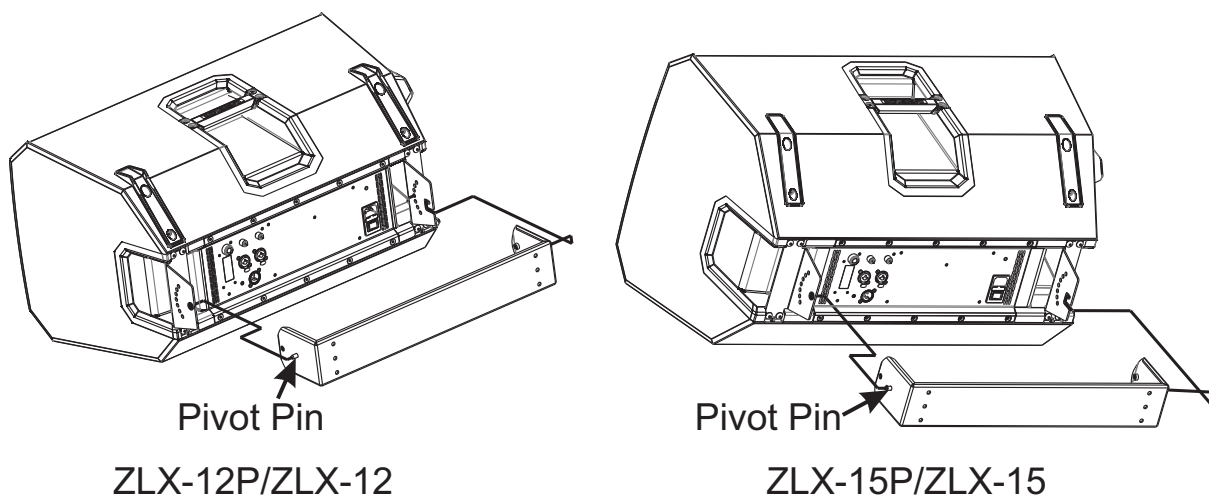

Figure 2.6: Guide onto U-bracket–Horizontal
3. Lift the **loudspeaker** and place the **upper mount** onto the pivot pin on the left side of the U-bracket (see Figure 2.6).
4. Ensuring the lower U-bracket pivot pin is securely placed in the notch, guide the **lower mount** into position (see Figure 2.6).
4. Lift the **loudspeaker** and place the **lower mount** (positioned on the left side) onto the pivot pin on left side of the U-bracket (see Figure 2.6).